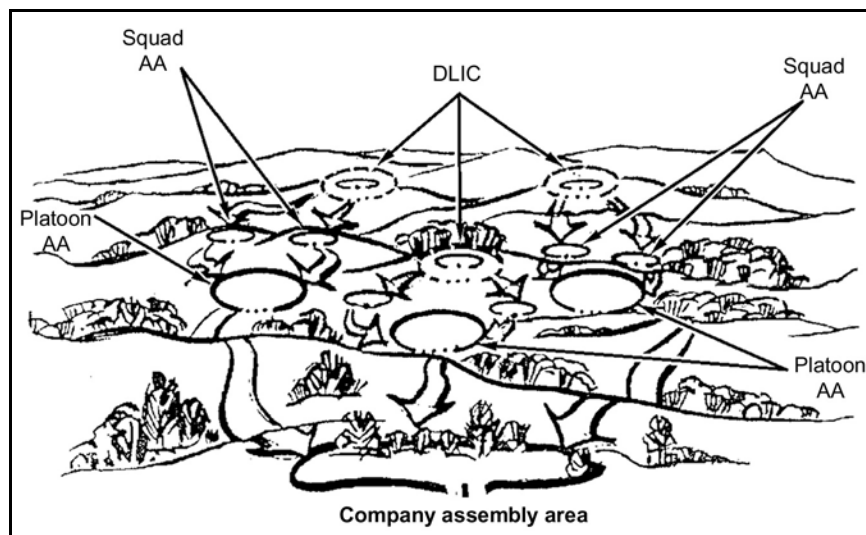

Figure 4-7. Withdrawal not under pressure.
(2) **Withdrawal Not Under Enemy Pressure.** The company can withdraw with speed, secrecy and deception (Figure 4-7). Withdrawal is most effective during the hours of darkness or under limited visibility conditions. Withdrawal is usually conducted in mass. When required, the company leaves a security force to cover a withdrawal by deception and maneuver. The antiarmor section can be split with a portion of the Javelin gunners assigned to the security force and the remainder with the main body.